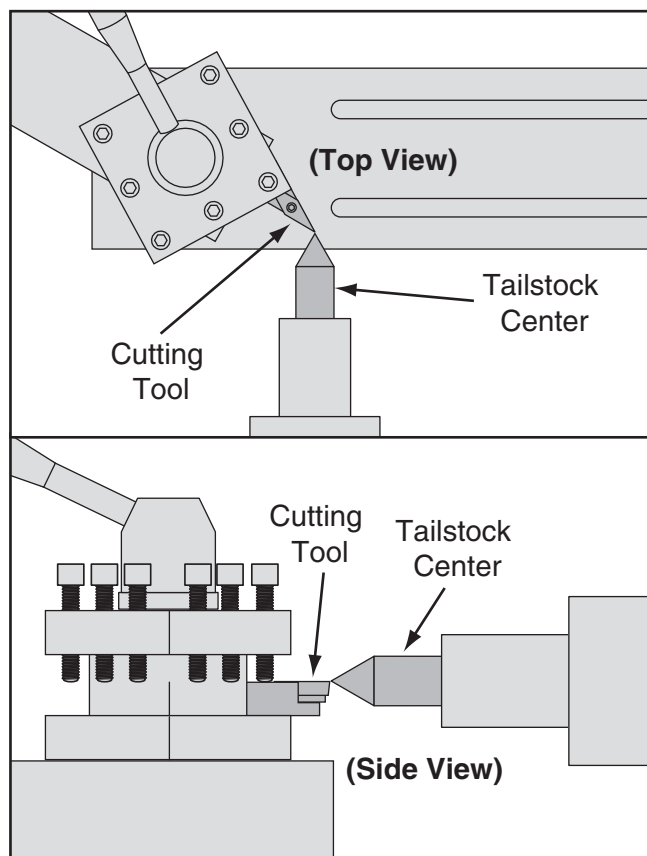

Figure 45. Cutting tool aligned to the tailstock center.
4. Adjust the height of the cutting tool so that the tool tip is aligned vertically and horizontally with the center tip, as shown in **Figure 45**.